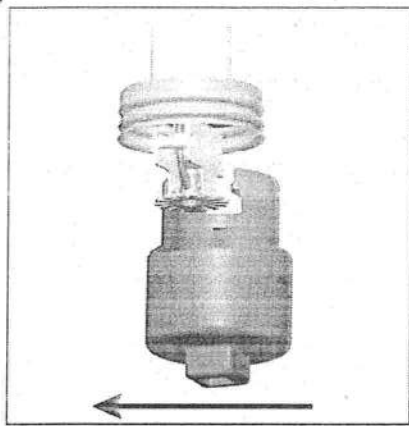

Fig. 1 - G3 R/C Wrench
- The Model G3 R/C wrench (Fig. 1) is designed to locate on the wrenching pads of the recessed sprinkler while centering in the cup. A standard ½" drive ratchet may be used to drive this wrench. Figures 1 and 2 show sequentially the insertion of the wrench. First the wrench, with its jaws above the sprinkler deflector, is moved laterally until centered with the cup. Then raise the wrench inside of the cup until its jaws engage the sprinkler's square wrenching pads (Fig. 3). To remove the wrench, follow this procedure in reverse order. Care should be taken to avoid striking the deflector, with the wrench.